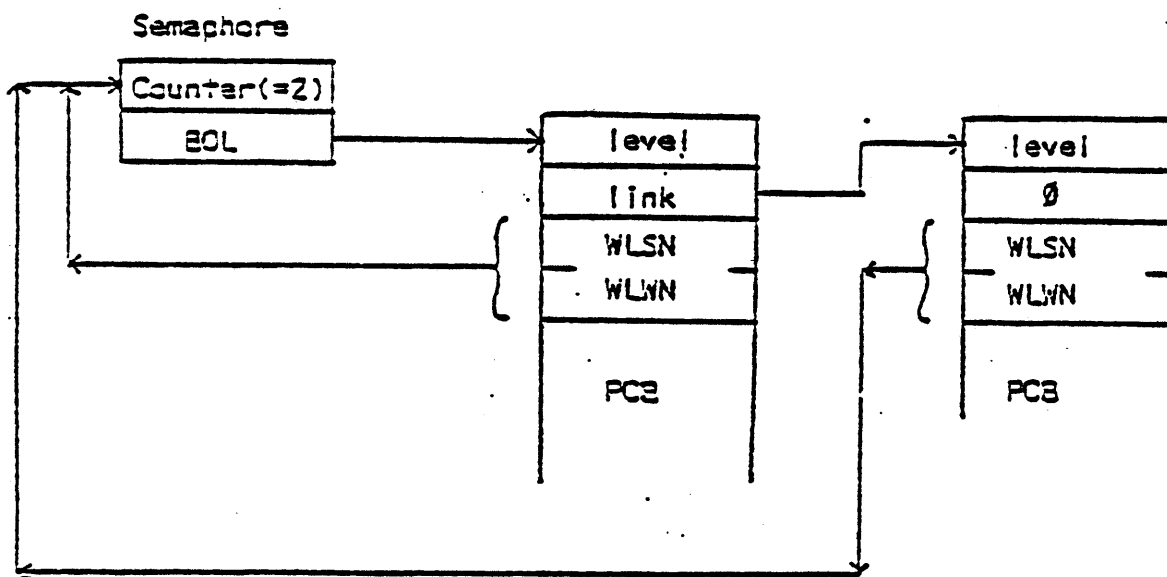

Figure 2.
Every PCB in the system will always be somewhere. If it is not on the ready list, then, by definition, it will be on a wait list. A wait list is defined by a 32-bit semaphore consisting of a 16-bit counter (C) and a 16-bit word number BOL pointer. Since the ready list and all PCB's reside in one segment (OWNERH), and only PCB's go onto wait lists, a segment number is not needed in the semaphore. However, semaphores themselves can be anywhere and, in general, are NOT in the PCB segment. The structure of a wait list is shown in Figure 2. Notice that the last block on the wait list contains a 0 link word. Notice also that the semaphore contains only a BOL pointer.